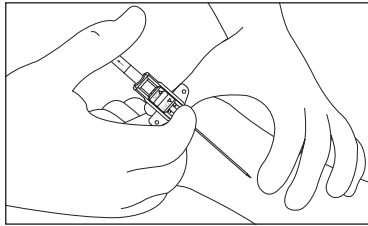

Figure 5
6. Position the device bevel-up prior to insertion (see Figure 5).